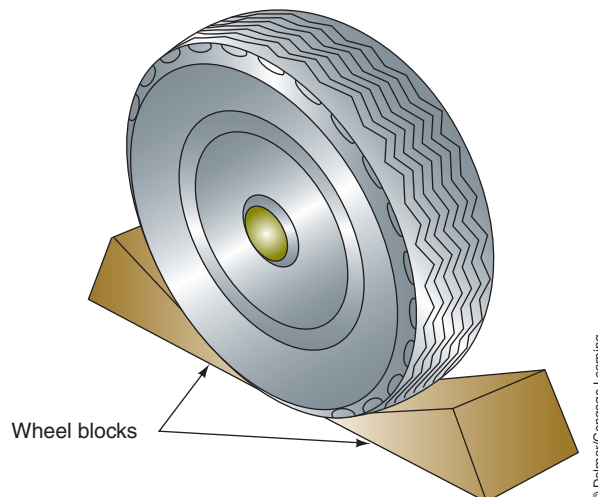

FIGURE 1-3 Block at least one wheel both in front and behind before raising the other end of the vehicle.
- Use wheel blocks to block the front and back of one of the wheels (Figure 1-3).